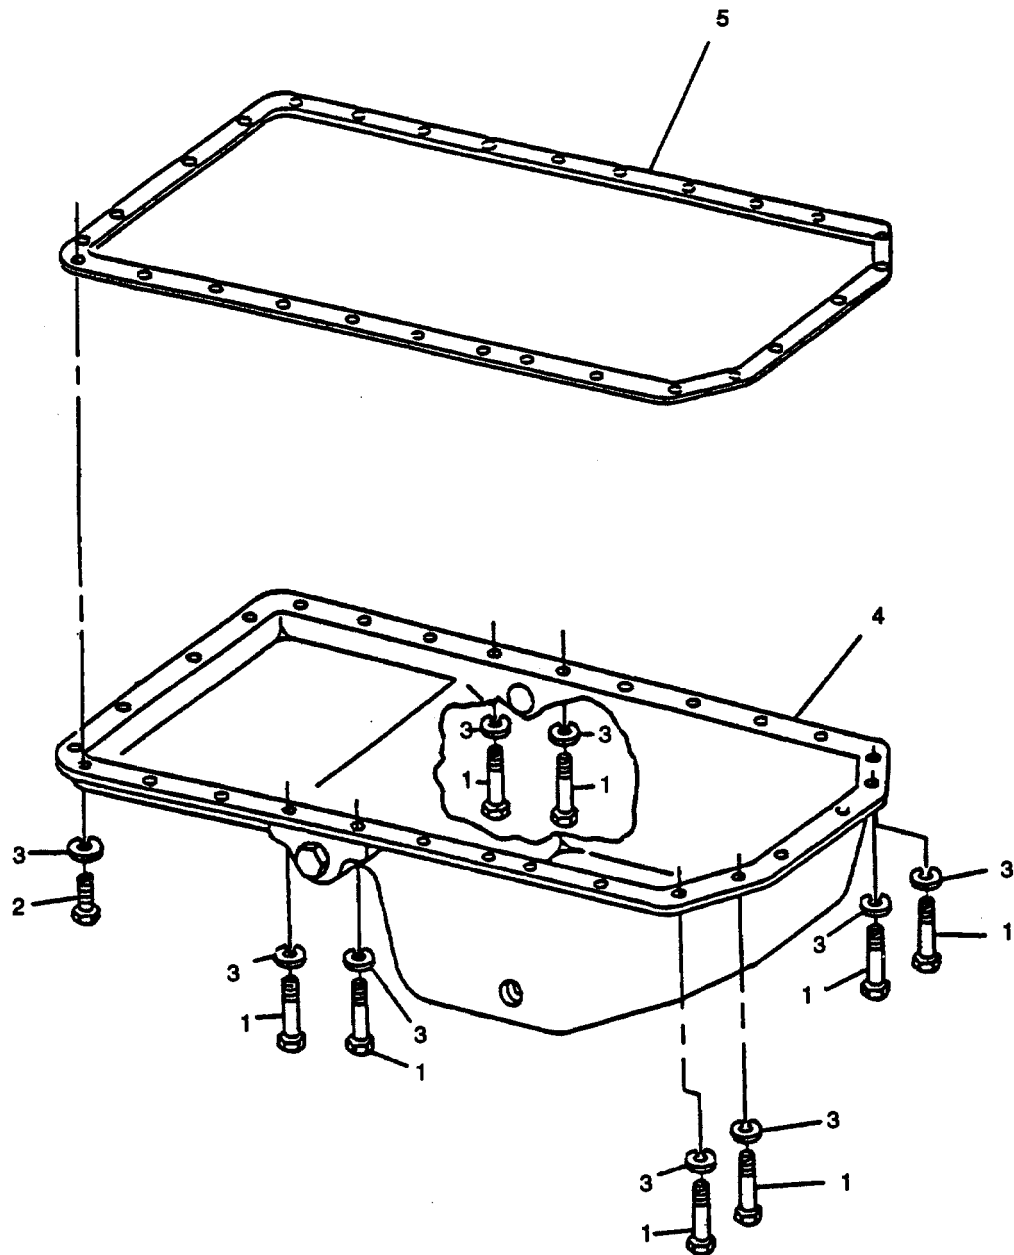

FIGURE 3-34. Oil Pan
- b. Support oil pan and remove eight bolts (1, FIGURE 3-34), twenty bolts (2), and twenty-eight lockwashers (3), securing oil pan (4) to engine block. Remove oil pan (4) and gasket (5); discard gasket (5).
- b. Place a new gasket (5, FIGURE 3-34) and oil pan (4) on engine block and secure with eight bolts (1), twenty bolts (2), and twenty-eight new lockwashers (3). Install the eight longer bolts (1) in locations noted during removal.
- Remove four bolts (1, FIGURE 3-34), two capscrews (2), and six lockwashers (3) from front of oil pan.
- c. Install four bolts (1, FIGURE 3-34), two capscrews (2), and six new lockwashers (3) in front oil pan. Tighten oil pan-to-timing cover capscrews to 27 ft-lbs (37 Nm). Tighten others to 35 ft-lbs (47 Nm).